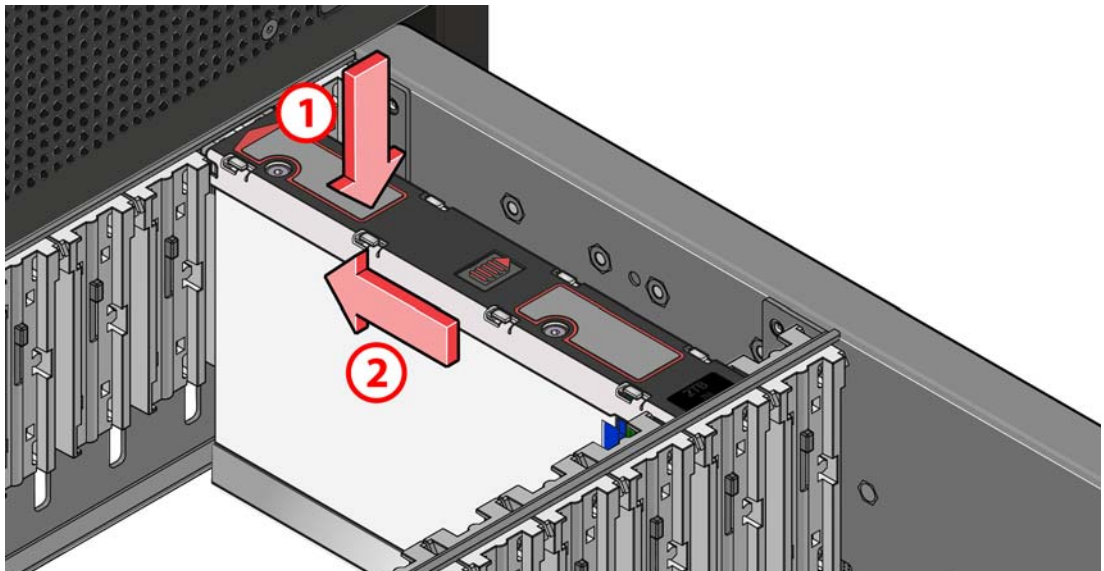

Figure 6-6 Installing a DDIC Drive
- 2 Lower the DDIC into the slot, with the drive capacity label facing towards you, as shown in Figure 6-6.
- 3 Push the DDIC downwards and hold it down while sliding the drive carrier plate in the direction shown in Figure 6-6. This locks the drive in place.